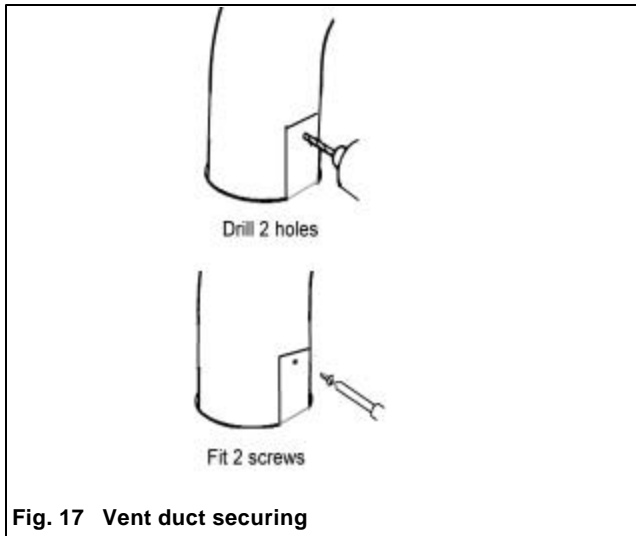

Fig. 17 Vent duct securing
10.17 Place a piece of card, thick paper, etc. over the top of the appliance to protect it. Secure the elbow or extension at the appliance ducts by drilling and securing with two #6 tapping screws provided (Lift the decorative vent collar clear while working). See figure 17. **Make sure that the drill does not penetrate the inner vent duct.**
- 12.3 The burner manifold pressure is controlled by a built-in non-adjustable regulator. The correct pressure range is shown in the table in section 2.3 of this manual. The manifold pressure should be checked at the pressure test point which is located on the thermostat unit (see figure 17). The pressure check should be made with the appliance burning, the gas control set at "On" and the thermostat control set at "Full". (Temporarily refit the control knobs for checking.)